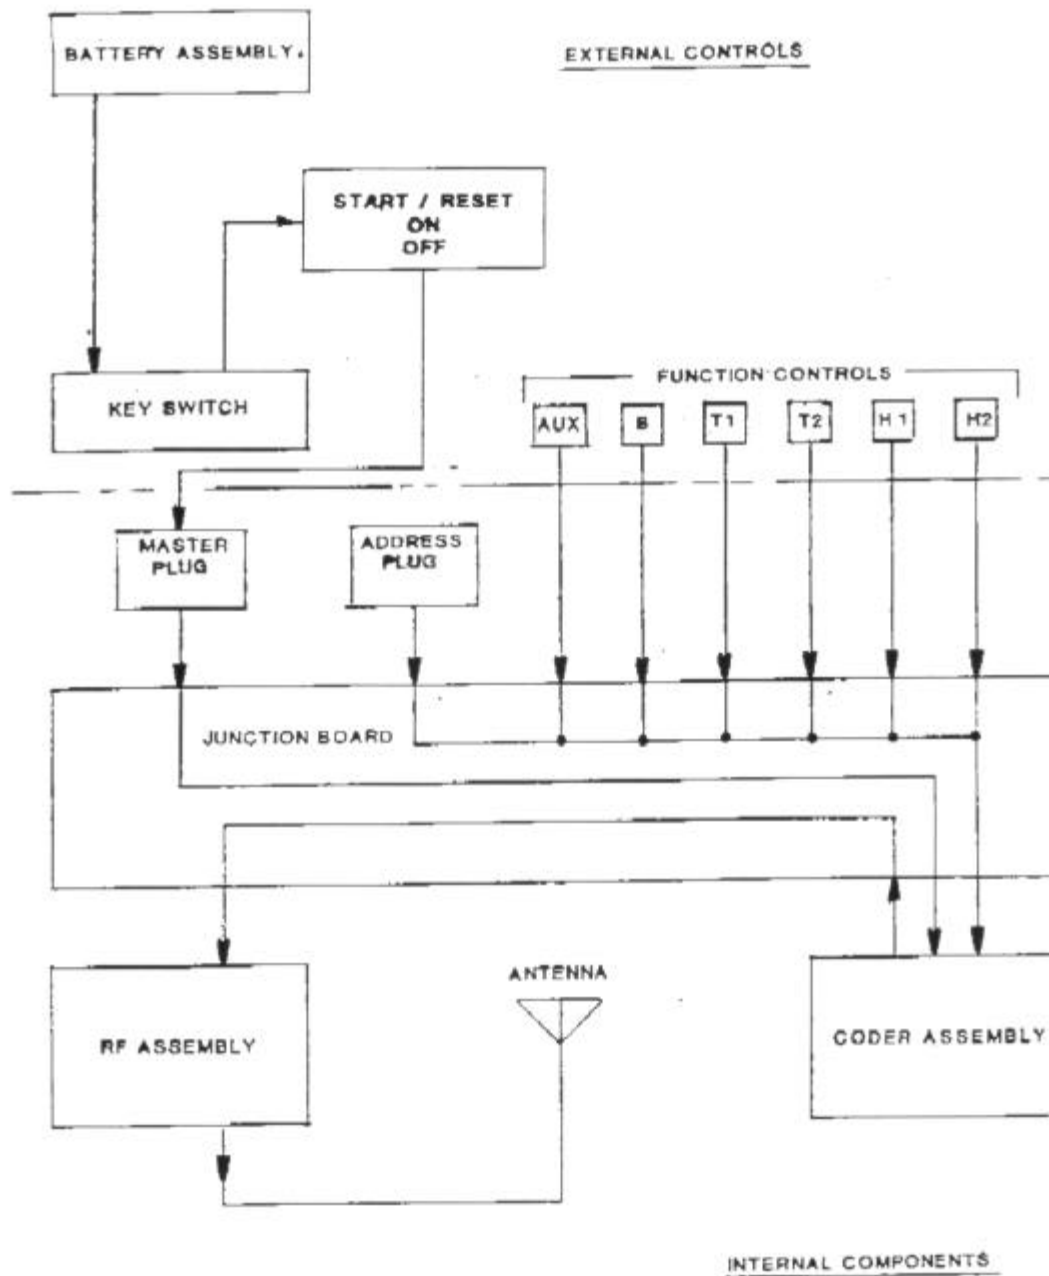

FIG 3-1: BLOCK DIAGRAM, TRANSMITTER
The Transmitter is a battery operated frequency modulation radio transmitter. Incorporated with the transmitter is an antenna and rechargeable battery pack. When the various switches are actuated, coded control signals are sent to the receiving equipment via the antenna. A block diagram of the transmitter is shown by Fig. 3-1.
5.2.2 Transmitter - (See Block Diagram, Transmitter, Fig. 3-1, and Transmitter Components, Dig. 5-1).